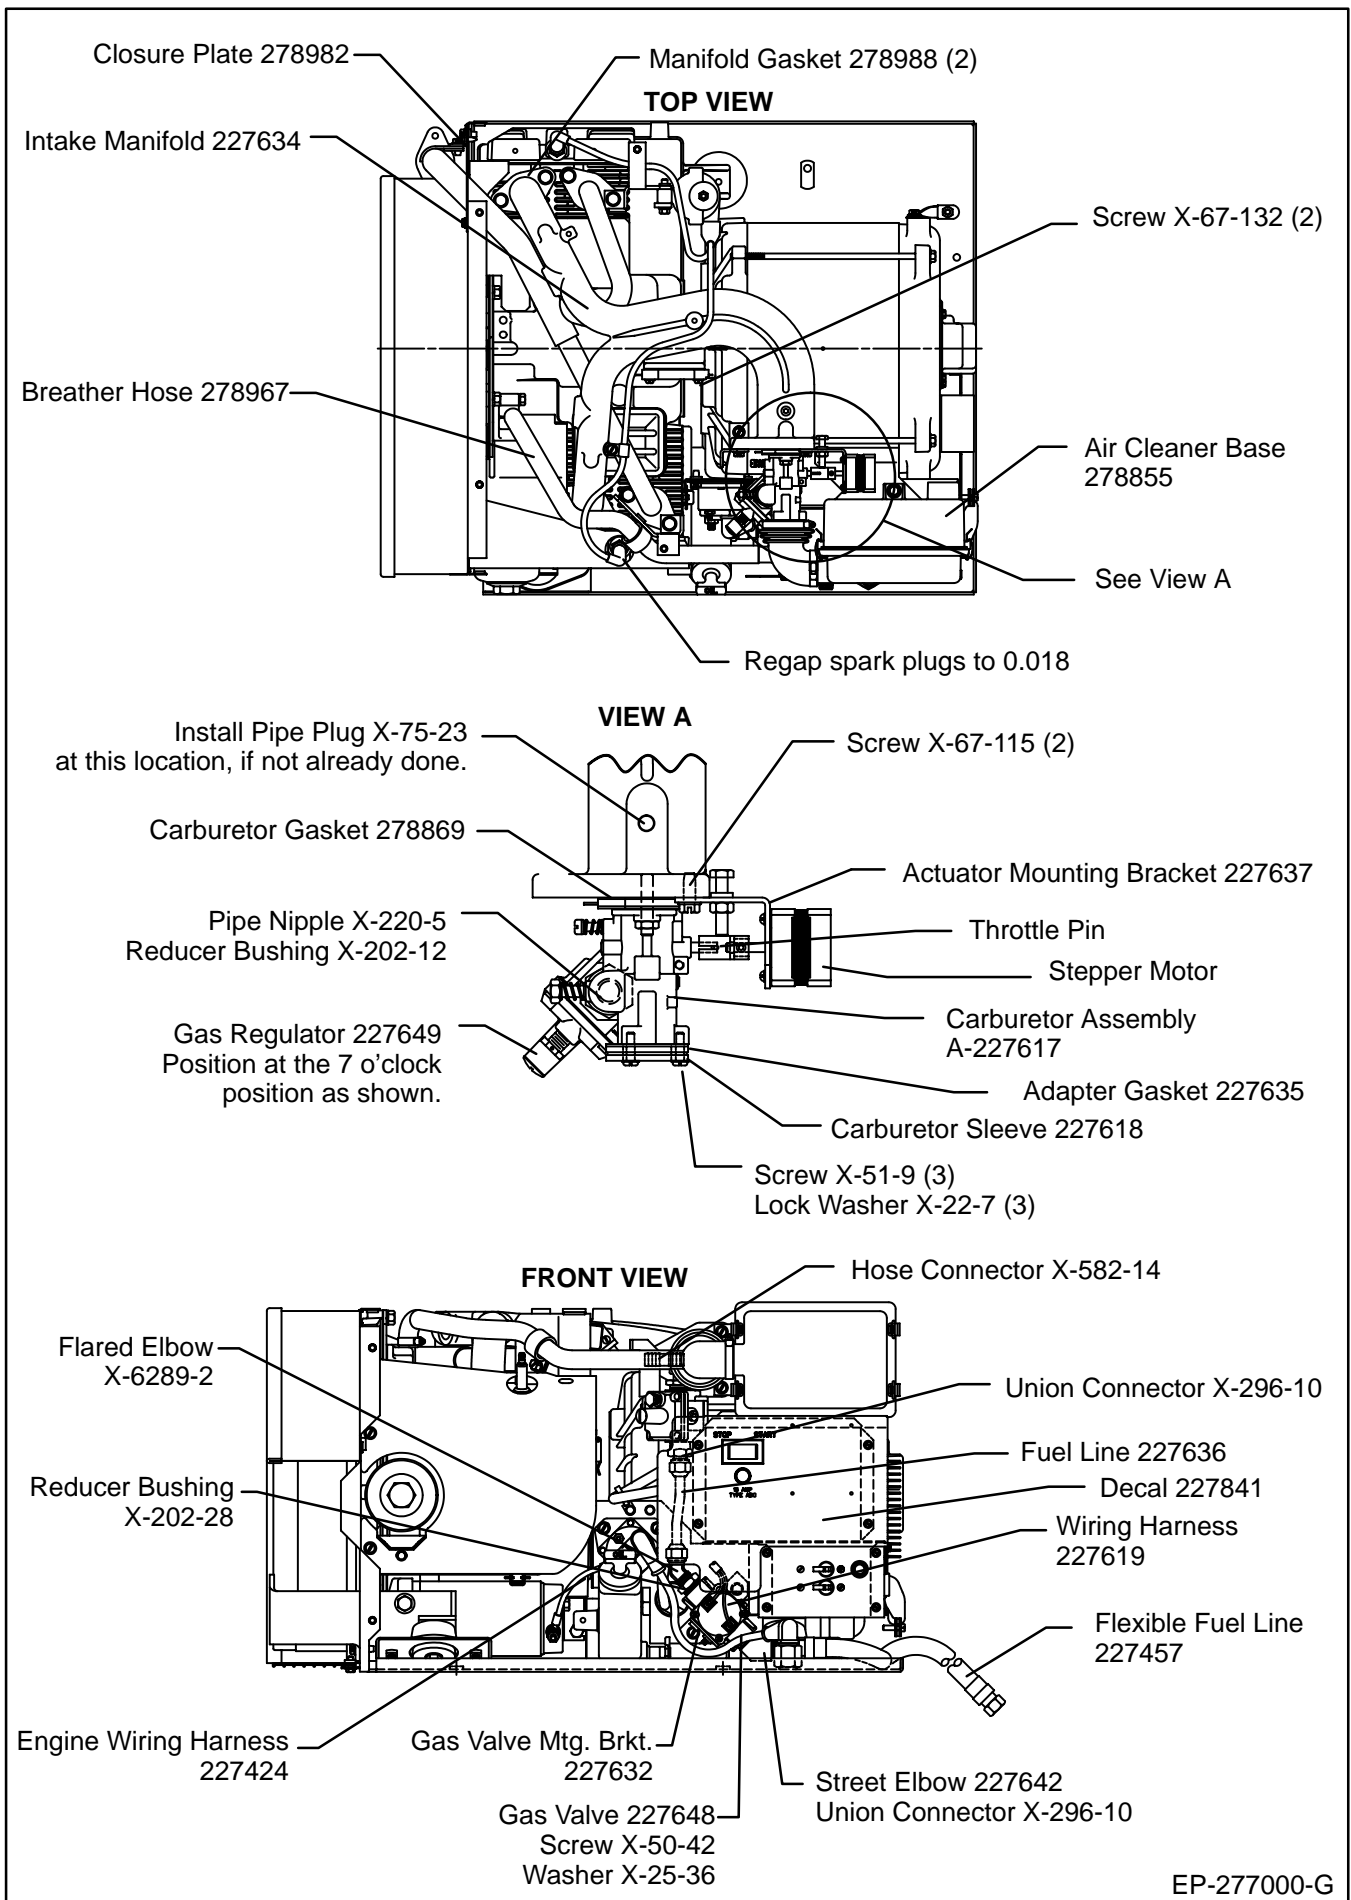

Figure 2. 7kW LP Vapor Fueled RV Generator Set.
52. Remove the lead (13) from the low-oil-pressure switch.
54. Remove the two leads (70) from the top of the ignition coil. (Replace the star washer and nut into the ignition coil.)
55. Remove the lead (N) from the bottom of the ignition coil. (Replace the star washer and nut into ignition coil.)
62. Position the throttle pin as shown in Figure 2. Slide sleeve onto the pin extending from the carburetor.
66. Install the gas regulator (227649) to the reducer bushing. Be sure the flow arrow (on the regulator casting) is pointing up toward the carburetor. Position the gas regulator at the 7 o'clock position. See Figure 2.
69. Mount the closure plate (278982) at the position shown in Figure 2. Use existing hardware to secure.